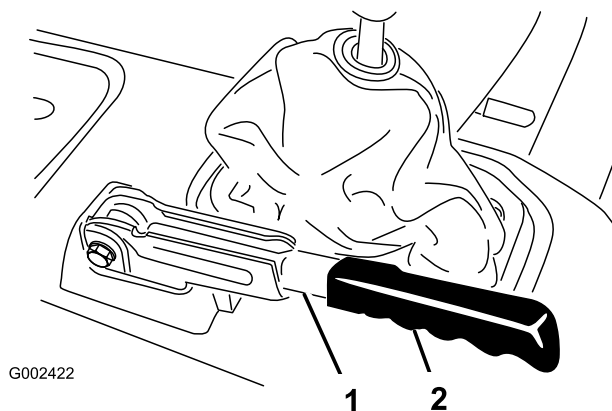

Figure 73
1. Remove rubber grip from parking brake lever (Figure 73)